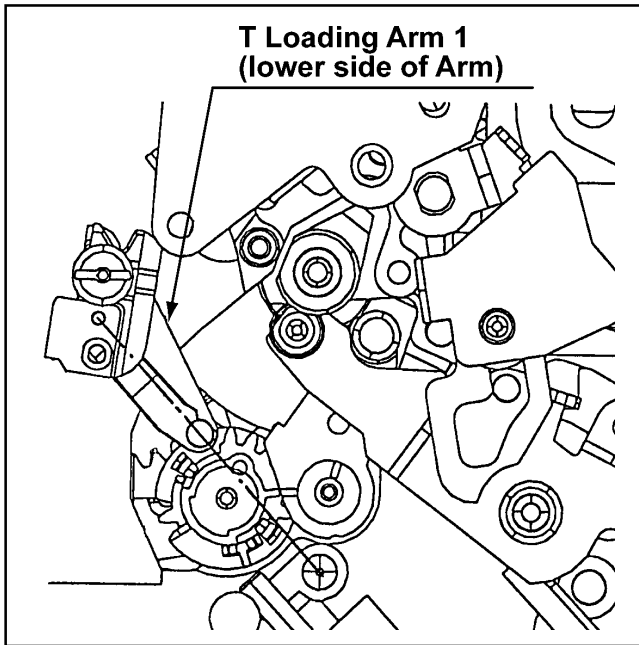

Figure 5-17-2
1. Turn clockwise emergency red screw and set the hole of T1 Boat Unit to match line of take up side cassette fixed pin as shown in figure 5-17-2.